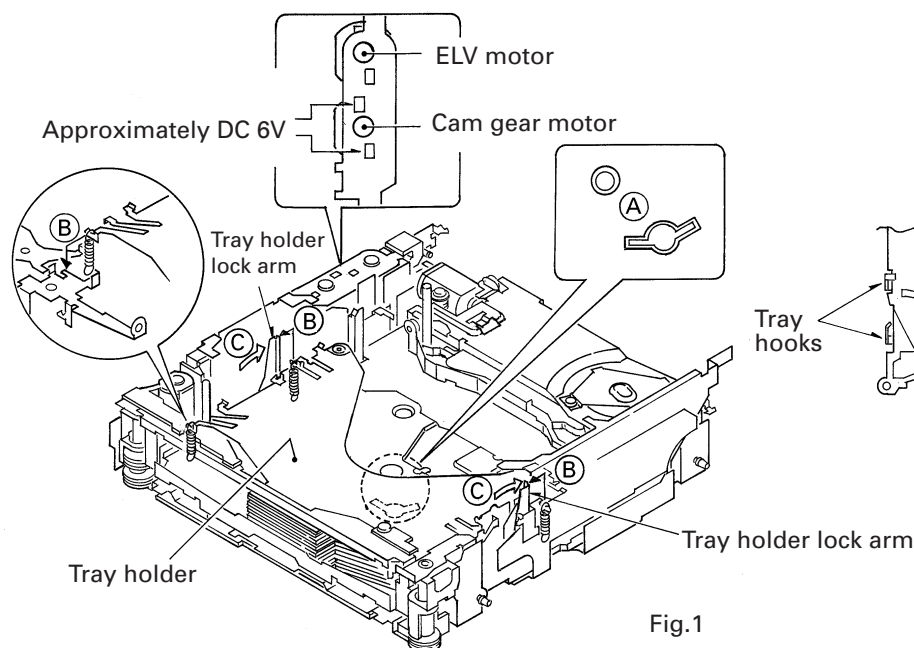

Fig.1
1. Apply about 6V current to the Cam gear motor until all holes match at the position (A) (elevation OK position).
2. Hook the three springs B temporarily as shown in Fig. 1. While pushing the Tray holder lock arms (right and